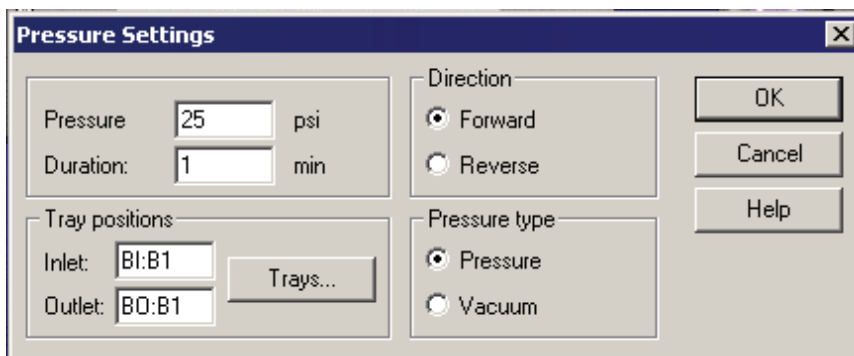

Figure 4.2 Pressure Settings Dialog
- Click on the **Pressure** “hot spot” on the Direct Control screen. The dialog in Figure 4.2 will open.
Pressure direction should be Forward and Pressure Type should be Pressure. The dialog should now look like the one shown above in Figure 4.2.